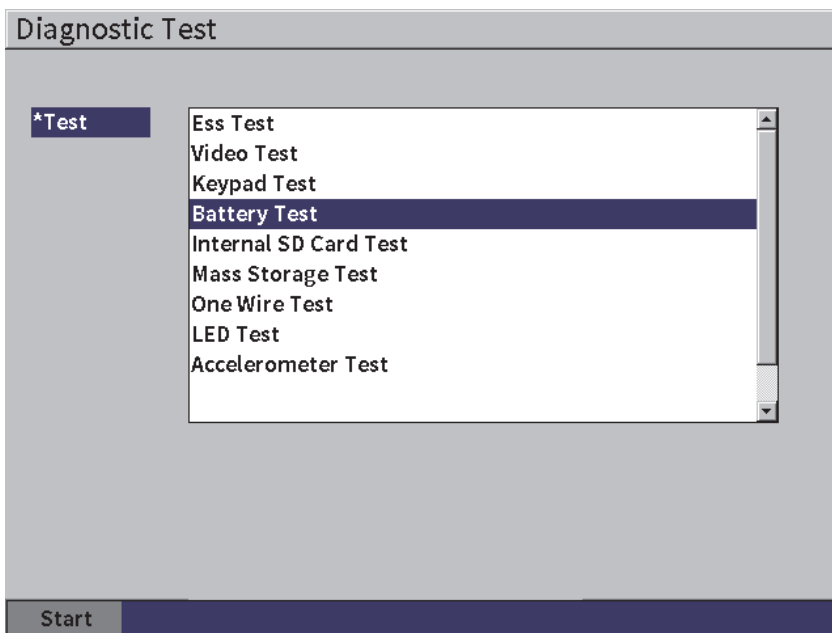

Figure 5-15 Diagnostic Test setup page
1. Select the **Diagnostic Test** icon () to open the **Diagnostic Test** setup page (see Figure 5-15 on page 78).